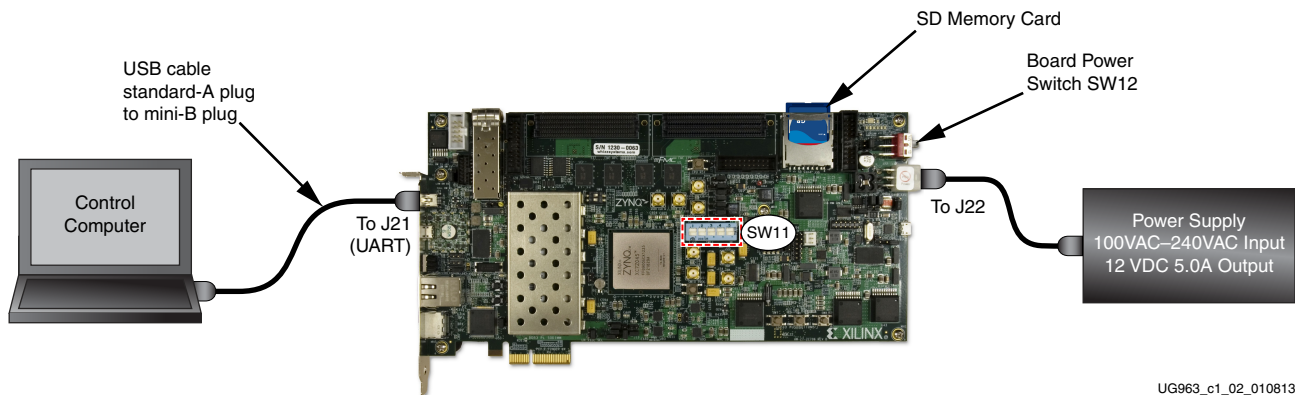

Figure 2-2: ZC706 Board Programming Setup
4. Connect the ZC706 board to the control computer and power supply as shown in Figure 2-2.